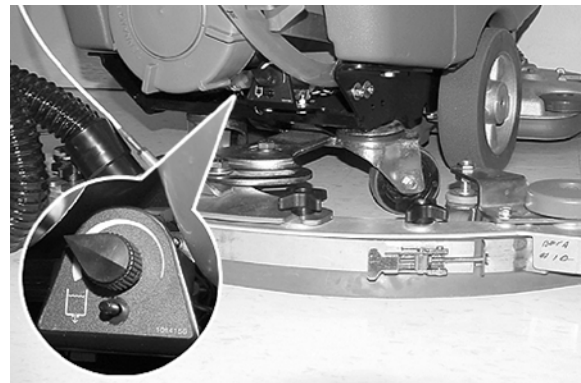

FIG. 19
- For conventional scrubbing, turn the solution flow control knob to a desired flow rate (Figure 19).